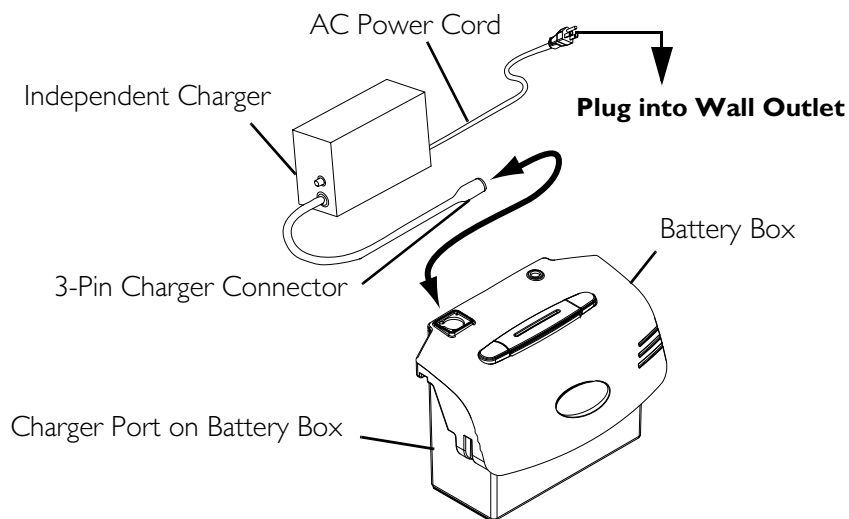

FIGURE 8.9 Charging Using an Independent Charger - Charger Plugged Directly to Batteries
NOTE: For this procedure, refer to FIGURE 8.9.
3. Plug the charger connector into the charger port located on the battery box (FIGURE 8.9).